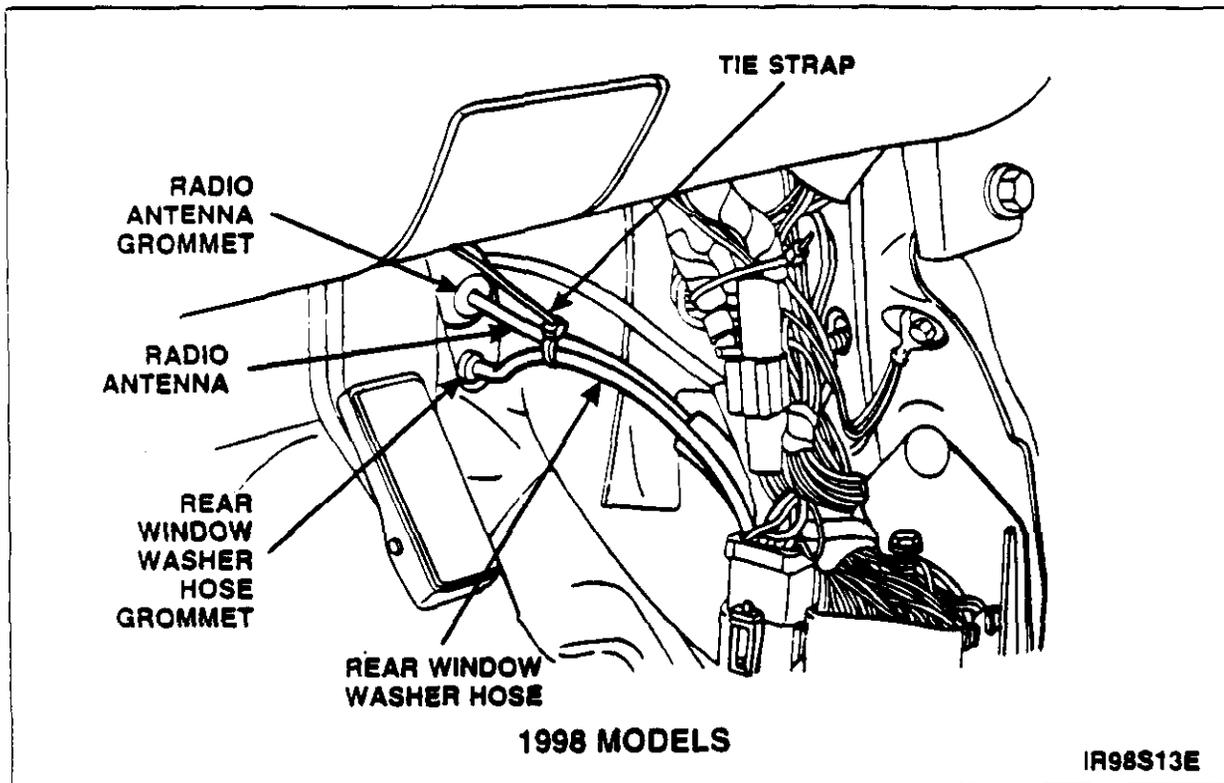

FIGURE 4
- Using tie strap, secure rear window washer hose to radio antenna. See Figure 4. Make sure grommets are not pulled out of dash panel.